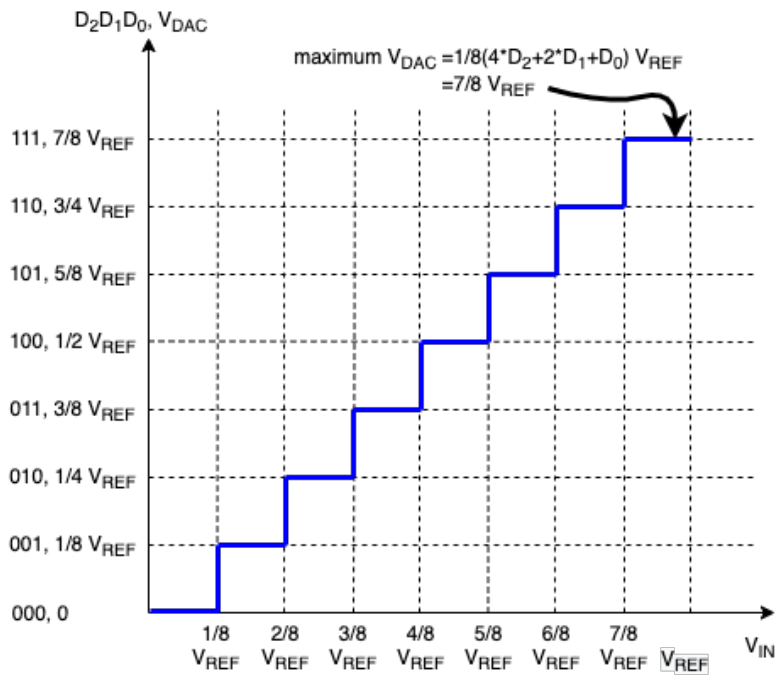

Figure 4: Voltage transfer curve of 3-bit SAR ADC
Before moving to the 4-bit ADC that will be implemented in the lab, let’s take a look at a 3-bit SAR ADC as an example. The voltage transfer curve of the 3-bit SAR ADC is shown in Figure 4, where $D_2D_1D_0$ is the output digital code of the ADC. Notice that the maximum voltage of the V_{DAC} is $\frac{2^N-1}{2^N}V_{REF}$ where N is the number of bits (N=3 in this case.) The Least Significant Bit (LSB) of the ADC can then be derived as $\frac{1}{2^N}V_{REF}$. For $V_{IN} = 0.3V_{REF}$, the operation of the SAR ADC algorithm is shown in Figure 5. The corresponding DAC code and comparator output in each cycle are also denoted in the timing diagram. **Note:** In this lab, the waveforms are different from those in Homework 2. That is because in the homework, we switch the current bit to the correct code (0 or 1, based on the output of the comparator) at the same time as we switch the next bit to the trial code (1). But in the lab, we switch the current bit to the correct code first and then switch the trial code after half a cycle.